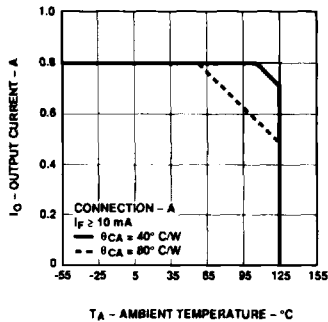
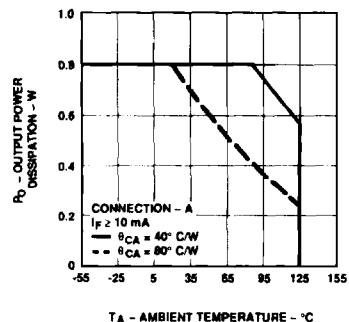

Figure 2. Maximum Average Output Current Rating vs. Ambient Temperature.
Figure 4. Output Power Rating vs. Ambient Temperature.
Average Output Current – Figure 2
Average Output Power Dissipation – Figure 4	800 mW ⁽²⁾
- For rating, see Figure 4. The output power P_O rating curve is obtained when the part is handling the maximum average output current I_O as shown in Figure 2.
Rating curves are shown in Figures 2 and 4. Figure 2 specifies the maximum average output current allowable for a given ambient temperature. Figure 4 specifies the output power dissipation allowable for a given ambient temperature. Above 55°C (for $\theta_{CA} = 80^{\circ}\text{C/W}$) and 107°C (for $\theta_{CA} = 40^{\circ}\text{C/W}$), the maximum allowable output current and power dissipation are related by the expression $R_{SS} = P_O(\text{max})/(I_O(\text{max}))^2$ from which R_{SS} can be calculated. Staying within the safe area assures that the steady-state junction temperatures remain less than 150°C . As an example, for $T_A = 95^{\circ}\text{C}$ and $\theta_{CA} = 80^{\circ}\text{C/W}$, Figure 2 shows that the output current should be limited to less than 610 mA . A check with Figure 4 shows that the output power dissipation at $T_A = 95^{\circ}\text{C}$ and $I_O = 610\text{ mA}$, will be limited to less than 0.35 W . This yields an R_{SS} of $.94\ \Omega$.